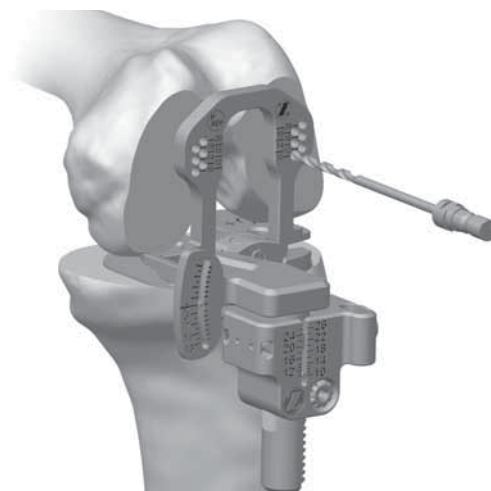

Fig. 49
- Select the holes on the drill guide that match the gap measured in extension. Drill the holes using the 3.2mm Drill. These will position the *Persona* Posterior Referencing 4-in-1 Cut Guide (Fig. 49).